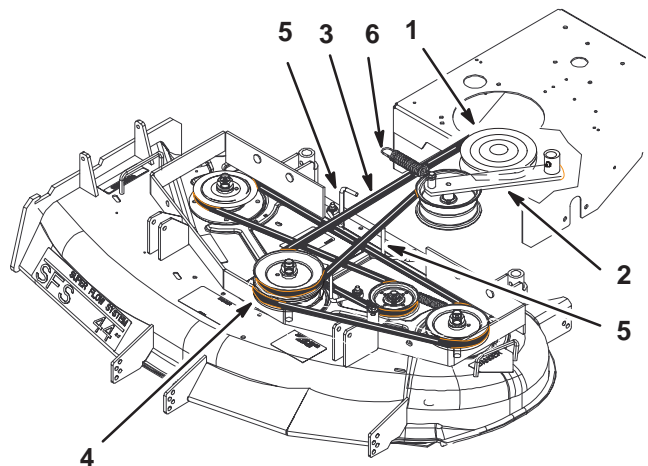

Figure 65
4. Remove the idler spring from idler arm. Remove the drive belt from the PTO engagement pulley and the center spindle pulley (Fig. 65).
5. Remove the worn drive belt (Fig. 65).
6. Install the new drive belt onto the PTO engagement pulley and the top groove of the center spindle pulley (Fig. 65).
7. Install belt onto idler pulley and then install idler spring (Fig. 65).
8. Adjust PTO drive belt guides an 1/8 in. (3 mm) from belt (Fig. 65).